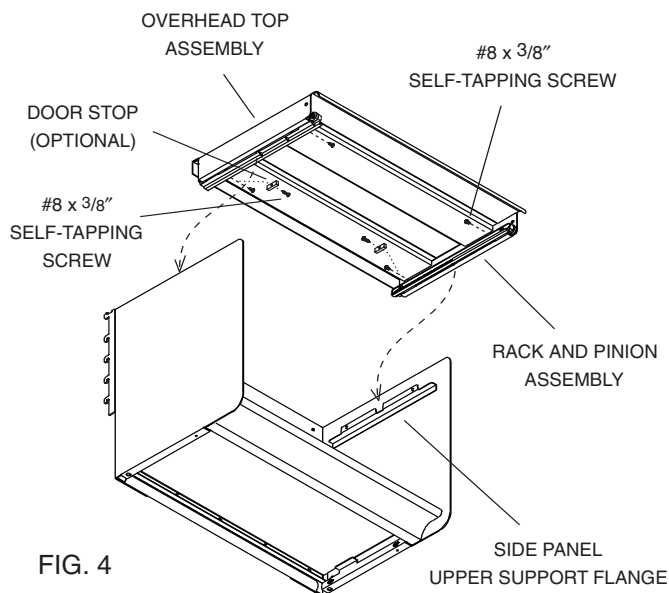

FIG. 4
6. Place the overhead top shelf/door assembly into the upper support flanges of the side panels (Figure 4, page 2-2-5). Push the shelf/door down and align the round front edge of the shelf with the matching round top-front corner on the side panels. Install and tighten (4) #8 x 3/8" self-tapping screws through the (4) larger oblong holes in the rack and pinion door mechanism inside the shelf/door assembly (Figure 4, page 2-2-5).
7. The recessed door may now be pulled out and lowered to its closed position. Adjust the bottom shelf so the door hangs straight and flush with the end panels. Tighten the (4) screws that attach the bottom shelf to the side panels, the (2) screws that attach the cabinet back to the shelf and the (6) flange nuts.
4. Insert a #8 x $\frac{3}{4}$ " self-tapping screw through the oval shaped door stop, and attach the door stop to the rack mechanism where the rear screw was just removed (Figure 4).